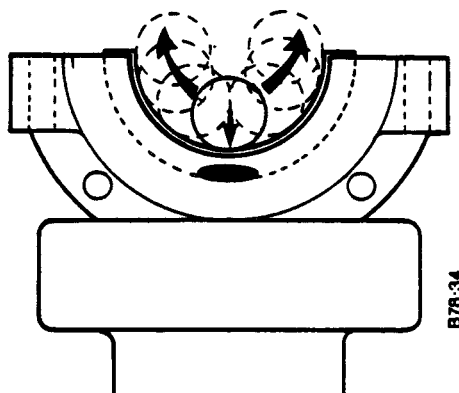

FIGURE 53 INSTALLING PACKING
4. Put a packing on the retainer and then push it into the groove with the smooth handle of a screwdriver. Push the handle down on the centre of the packing and slide the handle from the centre to each end of the packing. DO NOT roll the handle when pushing the packing into the groove. See Figure 53.